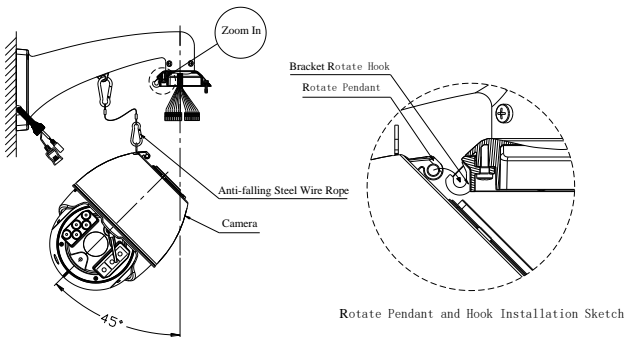

Fig 3
Step 3: install the anti-falling steel wire rope to dome camera and connect anti-falling boom bracket, hold the camera in both hand by 45°, fix the rotate pendant on the camera to the rotate hook on bracket(as Fig 3)